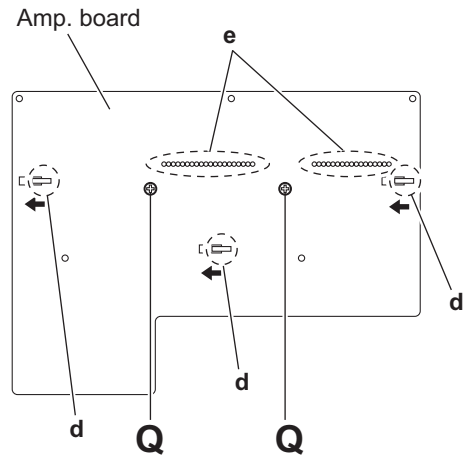

Fig.14
- From the bottom side of the amp. board, remove the two screws **Q** attaching the heat sink. (See Fig.14)
(See Fig. 14)